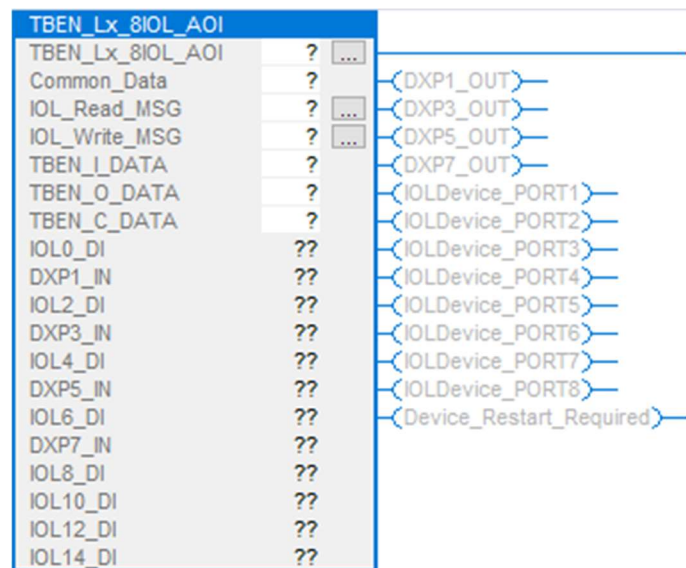

Figure 3.1 – TBEN-Lx-8IOL AOI
1. Drag the AOI into the desired rung. The rung may be empty or have other items in it. For the purposes of this manual, each rung will have only AOI in question. The TBEN-Lx-8IOL AOI can be seen in figure 3.1